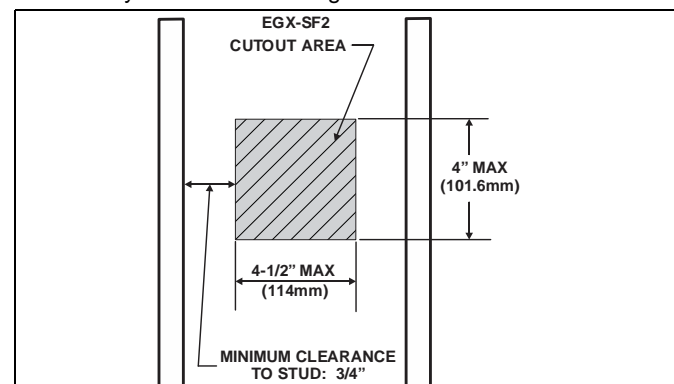

Figure 1
4. Measure the marked area and compare to the dimensions shown in Figure 1. If measurements do not exceed the maximum dimensions shown in Figure 1, continue to step 5. If they do, adjust markings to match dimensions in Figure 1.